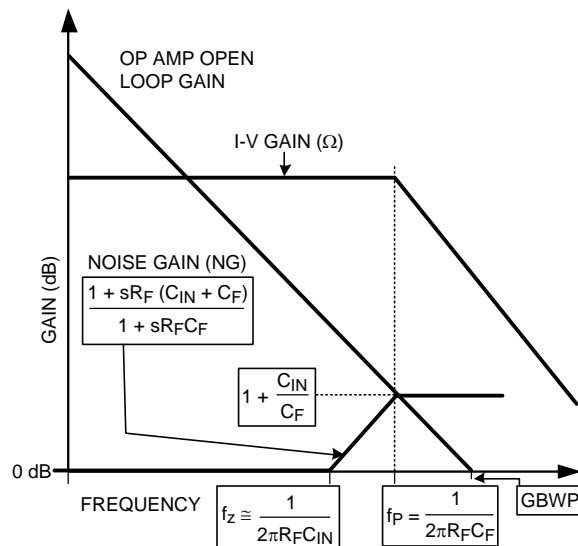

Figure 61. Transimpedance Amplifier Graphical Stability Analysis and Compensation
The diode capacitance ( $C_D$ ) along with the input capacitance of the LMH6601 ( $C_A$ ) has a bearing on the stability of this circuit and how it is compensated. With large transimpedance gain values ( $R_F$ ), the total combined capacitance on the amplifier inverting input ( $C_{IN} = C_D + C_A$ ) will work against  $R_F$  to create a zero in the Noise Gain (NG) function (see Figure 61). If left untreated, at higher frequencies where NG equals the open loop transfer function there will be excess phase shift around the loop (approaching 180°) and therefore, the circuit could be unstable. This is illustrated in Figure 61.
Figure 61 shows that placing a capacitor,  $C_F$ , with the proper value, across  $R_F$  will create a pole in the NG function at  $f_p$ . For optimum performance, this capacitor is usually picked so that NG is equal to the op amp's open loop gain at  $f_p$ . This will cause a “flattening” of the NG slope beyond the point of intercept of the two plots (open loop gain and NG) and will result in a Phase Margin (PM) of  $45^\circ$  assuming  $f_p$  and  $f_z$  are at least a decade apart. This is because at the point of intercept, the NG pole at  $f_p$  will have a  $45^\circ$  phase lead contribution which leaves  $45^\circ$  of PM. For reference, Figure 61 also shows the transimpedance gain (I-V ( $\Omega$ ))
The op amp noise voltage will be gained up in the region between the noise gain's “zero” and its “pole” ( $f_z$  and  $f_p$  in Figure 61). The higher the values of  $R_F$  and  $C_{IN}$ , the sooner the noise gain peaking starts and therefore its contribution to the total output noise would be larger. It is obvious to note that it is advantageous to minimize  $C_{IN}$  (e.g. by proper choice of op amp, by applying a reverse bias across the diode at the expense of excess dark current and noise). However, most low noise op amps have a higher input capacitance compared to ordinary op amps. This is due to the low noise op amp's larger input stage.